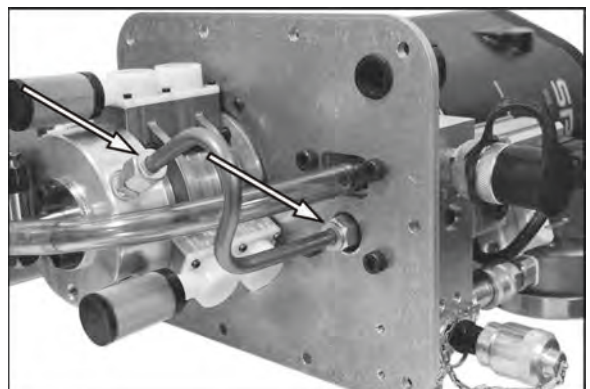

Figure 70.
2. See Figure 70. Loosen the two compression fittings and remove the high pressure tube.